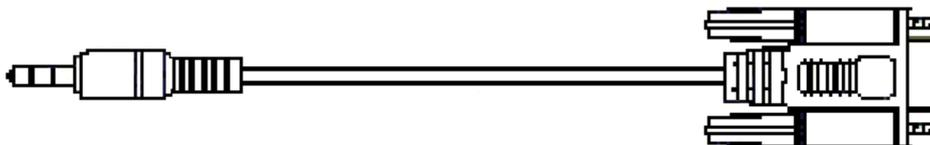

Figure B-1: Audio Jack-to-DB9 Serial Communication Cable
The ES A16F-R1211 is shipped with two (2) customized audio jack-to-DB9 serial communication cables. These cables are used to connect the controller modules on a subsystem to a PC hyperterminal for subsystem management. If you wish to use a UPS with your subsystem, two (2) additional audio jack-to-DB9 serial communication cables (see *Figure B-1*) must be purchased.